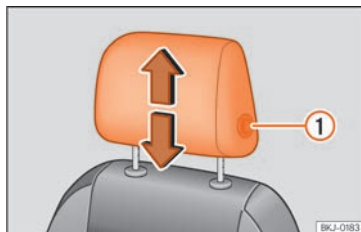
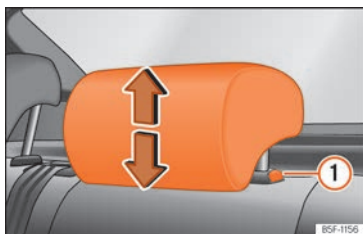

Fig. 65 Front seat: adjusting the head restraint.
Fig. 66 Rear headrest: adjusting the headrest.
- Grab the sides of the head restraints with both hands and push upwards to the desired position. To lower it, repeat the same action, pressing the button on the side ① >>> Fig. 65, >>> Fig. 66.